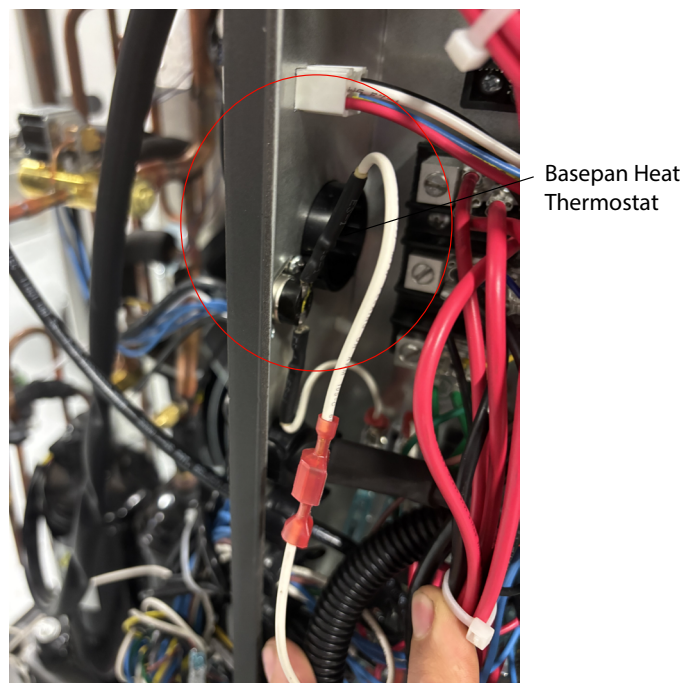

Figure 442 (Basepan Thermostat)
3. If Voltage is available at the relay, check power on both side of the inline thermostat. See figure 442. Strip back heatshrink and check that switch is closed if below 32 degrees and open if above 50 degrees. Reinstall heatshrink.